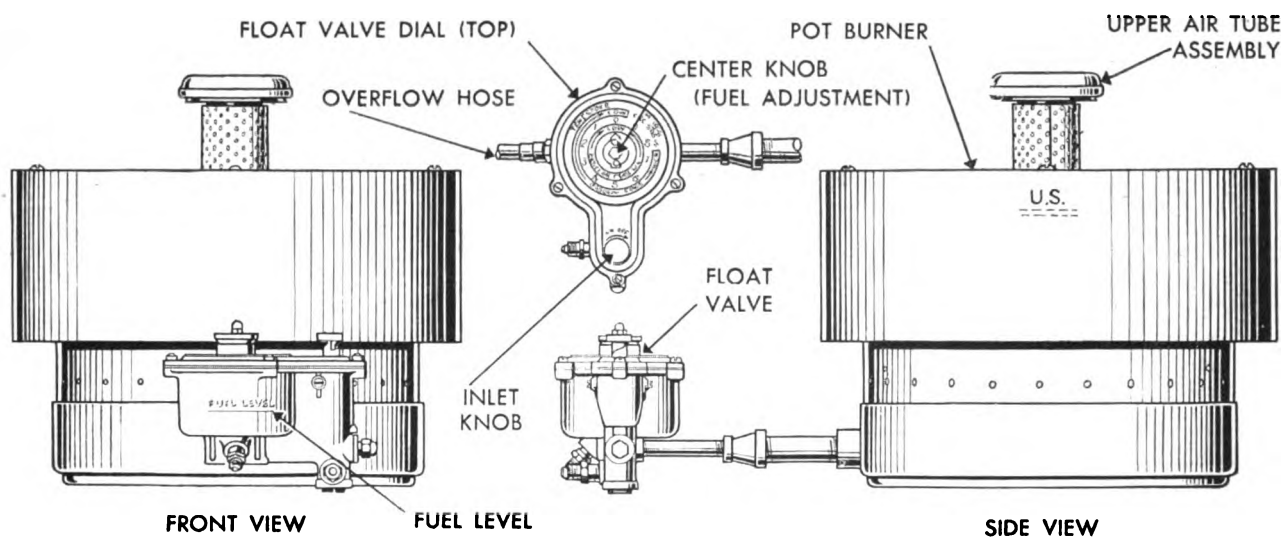

Figure 89. Detail of oil burner and float valve.
c. HOW TO ASSEMBLE. (1) Place the base of the stove on the ground or the floor of the tent and lay the separation ring on top of it. If the stove is already assembled for the use of coal, remove the stovepipe, the top, and the grate.
(2) Connect float valve to burner with pipe nipples; make connections tight enough to prevent fuel leaks and to hold float valve in level position. Float valve will be irreparably damaged if it is used as a pipe wrench in making joints tight.
(3) Insert the valve and the burner pot in the ring and extend the control out through the ash-pit door opening. Rotate the burner until its catches are engaged under the edge of the separation ring.
(4) Install the cast-iron air tube in the center of the burner.
(5) Attach the top section of the stove and the stovepipe.
(6) Connect the hose from the fuel tank adapter to the "inlet" fitting at the end of the control.
(7) Connect another hose to the overflow under the center of the float valve. This hose is to carry off any possible overflow and consequently must drain downward and discharge in a safe outside location.
(8) Remove the screw cap from a standard 5-gallon can of fuel and insert the adapter. With the cam loosened, screw the outer ring down firmly. At the same time hold the cam lever so that the vent tube is centrally located, pointing diagonally toward the opposite lower end of the can. Tighten the cam lever.
(9) Make certain that the inlet knob at the end of the control is in the OFF position. Then invert the fuel can and mount it on a suitable elevated support.
(10) Make sure that all fuel line joints are leakproof.
d. HOW TO LIGHT THE BURNER USING GASOLINE. (see fig. 89). (1) Open the cover on the tent stove.
(2) Turn the center knob to 9 on the dial. When gasoline appears in the burner, turn the knob back to 1.
(3) Drop a lighted match into the burner immediately.
(4) Replace the top cover, and after 5 minutes set the knob for the size of flame desired.
(5) The red arrow on the dial indicates the range of adjustment for gasoline. Any setting above 7 will cause smoke and waste of fuel.